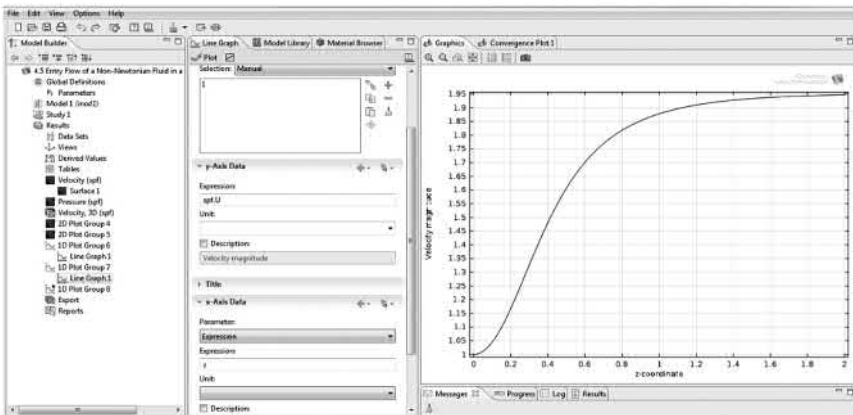

FIGURE 4.5 Centerline velocity in pipe flow.
- Now select the left boundary on the rectangle graph. Click on the “+” sign at the top right corner, this will add *boundary 1* in the *Boundary Selection* tab. Click on the “+” sign in the *x-axis* data and select *z-coordinate* (*z*). Plot the *Line Graph*. A graph will appear giving the profile of *Velocity magnitude* versus *z* for boundary 1 as shown in Figure 4.5.